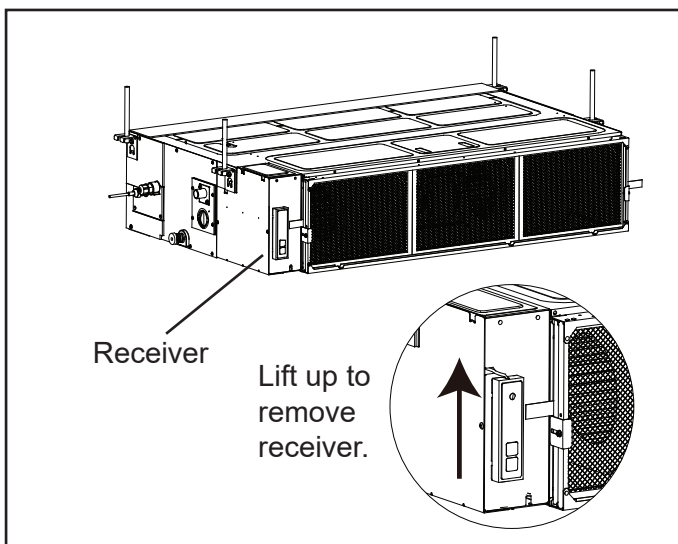

Figure 6. Remove Receiver
7. The unit is factory-configured for the supply air to be delivered from the front and the return air filter at the rear of the unit. The return air filter location can be relocated in the field for bottom return air filter access, if more convenient. See figure 6.